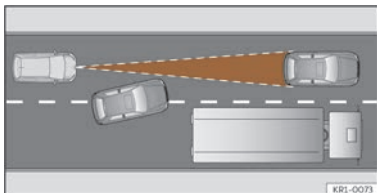

Fig. 137 Vehicle changing lanes.
- Vehicles that move into your lane, a short distance from your vehicle >>> **Fig. 137**.